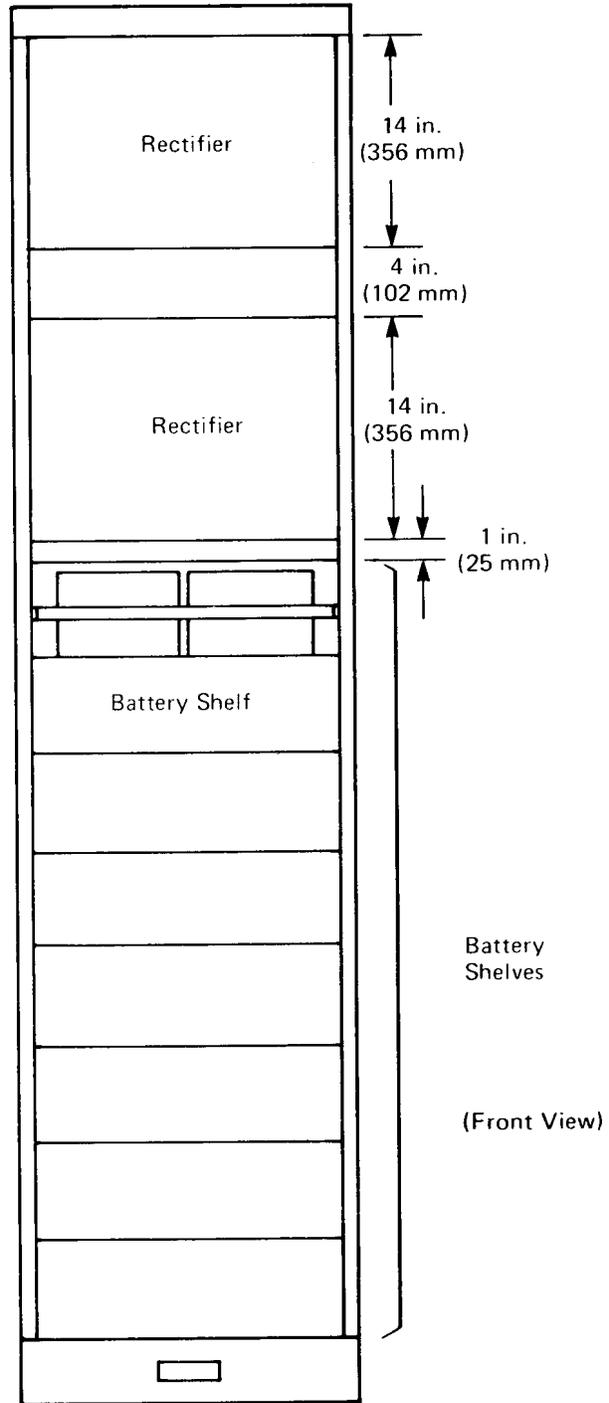

Fig. 3 — Power Bay Configuration
2.15 The J7209C power bay is used with hut-installed RCT to provide 48-V power for the RCT. The equipment in the bay includes a J2357E rectifier to provide 48-V power from a 115/230-V, 60-Hz supply; and up to 10 shelves of batteries for emergency power. Space is provided for an optional backup rectifier. A typical power bay configuration is shown in Fig. 3.